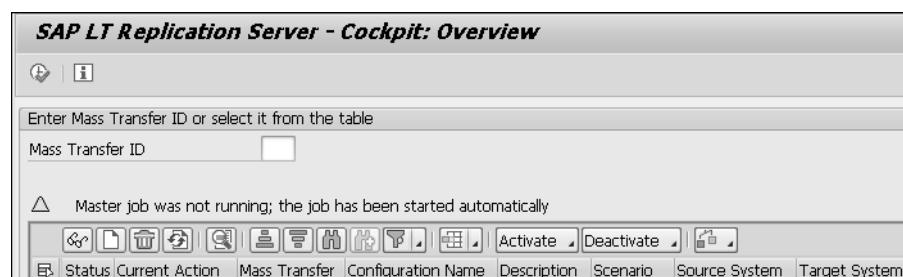

Figure 8.3 SAP LT Replication Server Cockpit Screen: Create Configuration
2. Select **Create Configuration** (see Figure 8.3).